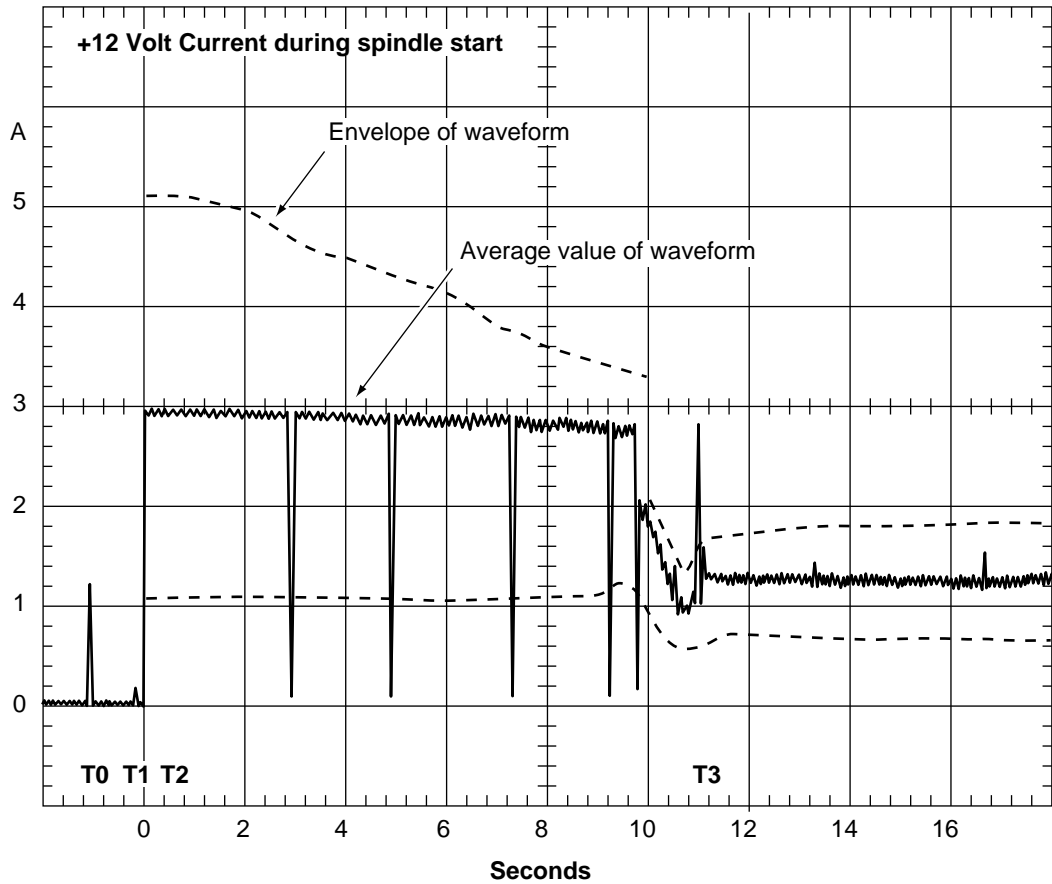

Figure 3. Typical Cheetah 9 family drive +12 V current profile
- [3] See +12V current profile in Figure 3.
Figure 3 identifies the drive +12 V current profile. The current during the various times is as shown: